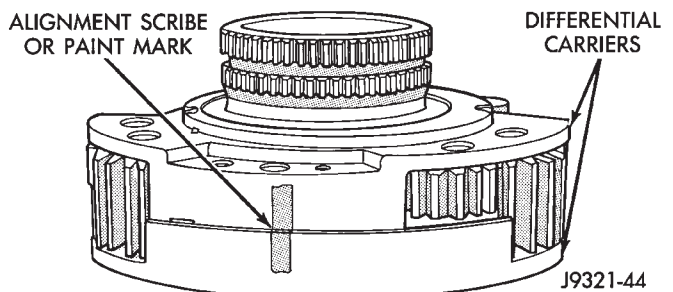

Fig. 72 Differential Carrier Alignment And Assembly
(7) Install differential front carrier on rear carrier. Align carriers with paint mark made at disassembly (Fig. 72).
(8) Install and tighten differential carrier bolts to 17-27 N•m (150-240 in. lbs.) torque.